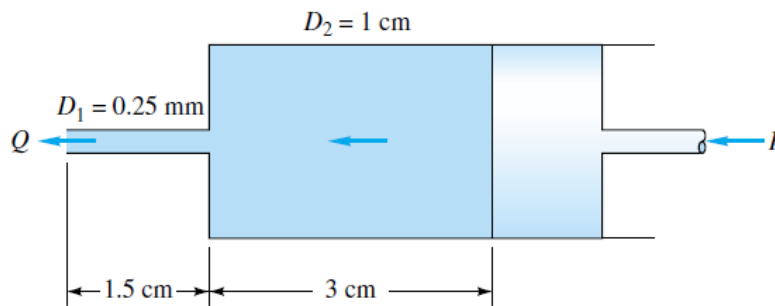

Figure 1.
2. A steady push on the piston in Fig 1. causes a flow rate $Q=0.9 \text{ cm}^3/\text{s}$ through the needle. The fluid has $\rho= 900 \text{ kg/m}^3$ and $\mu= 0.002 \text{ kg/m}\cdot\text{s}$. What force F is required to maintain the flow?